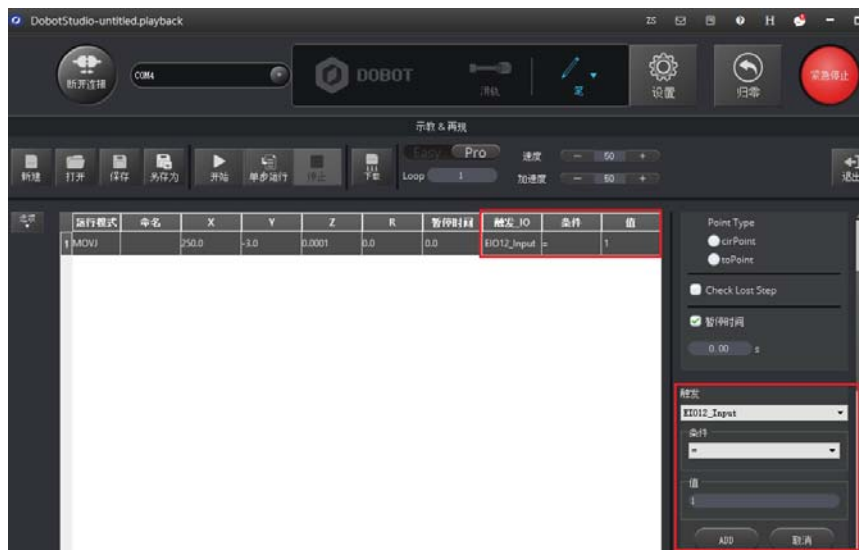

Figure 5.193 Saved point
Step 4 Click **ADD**, as shown in Figure 5.193.